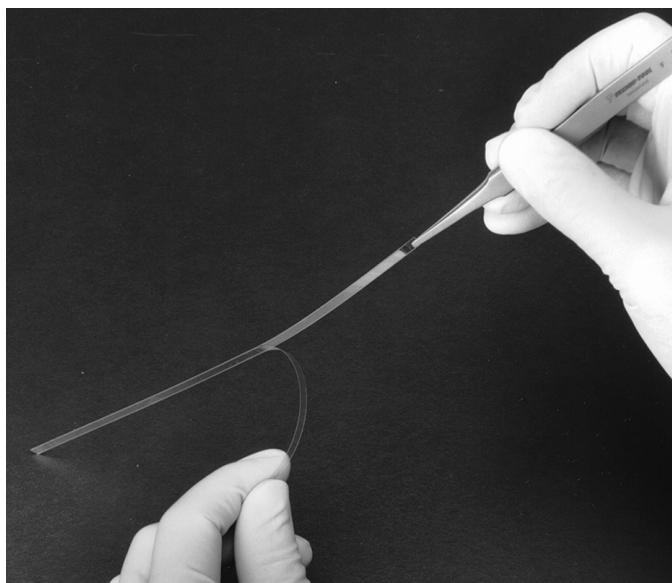

Fig. 3. Removing the cover sheet from the ReadyStrip IPG strip.
3. When all the protein samples have been loaded into the rehydration/equilibration tray as pictured in Figure 2, using forceps, peel the coversheet from one of the pH 4-7 ReadyStrip IPG strips, as in Figure 3.